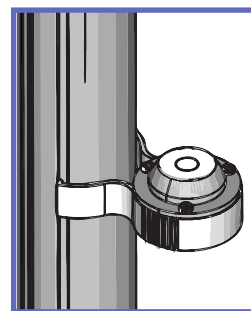
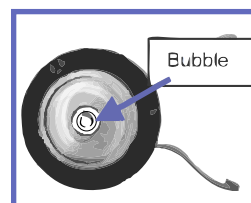

Fig. 20
Fig. 21
- 9) Before the *EASYTRACK* post tightens against the ceiling; check the clip-on level to make sure the bubble is in the centre of the circle. Tilt the post until the bubble reaches the centre of the circle, see Fig. 20 and Fig. 21.